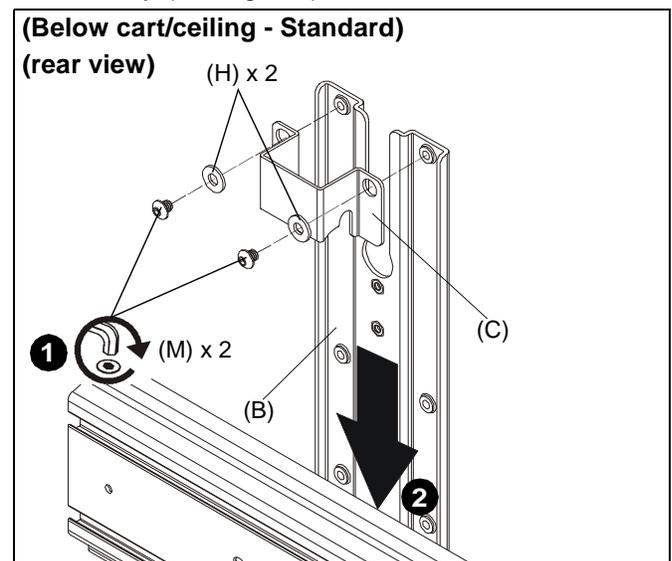

**Figure 6**
- (For **minimum/intermediate extension**) Use two #10-24 lock nuts (G) to secure upright bracket (A) to main bracket (B) and adapter plate (E). (See Figure 6)
**NOTE:** Minimum configuration is shown in Figure 6. Several intermediate configurations are possible depending on which holes are used.
- (For **minimum/intermediate extension**) Use 1/4-20 x 5/8" hex head flange bolt (N) and center washer (F) to secure upright bracket (A) to main bracket (B). (See Figure 6)